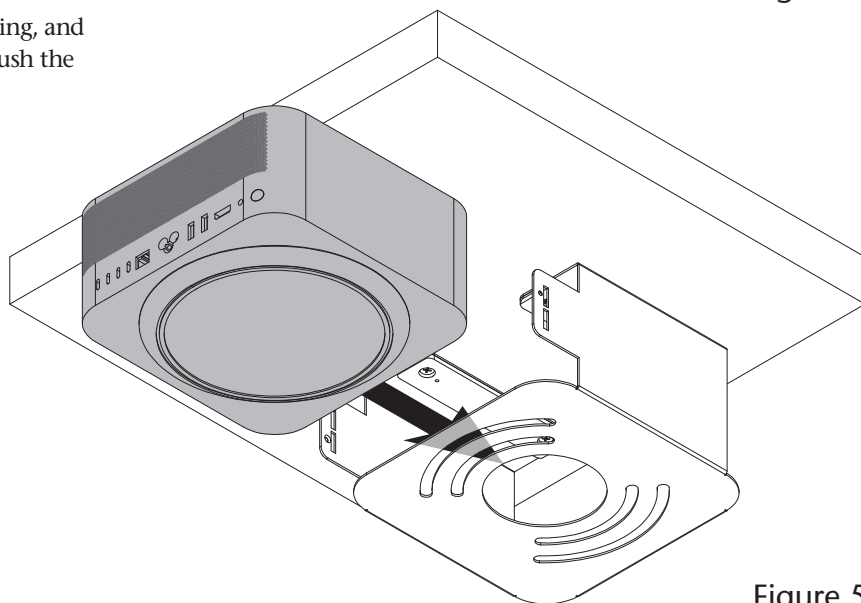

Figure 5
11. Remove your Mac Studio computer from its packaging, and then carefully insert it into the bracket as shown. Push the computer in until it stops (Figure 5).